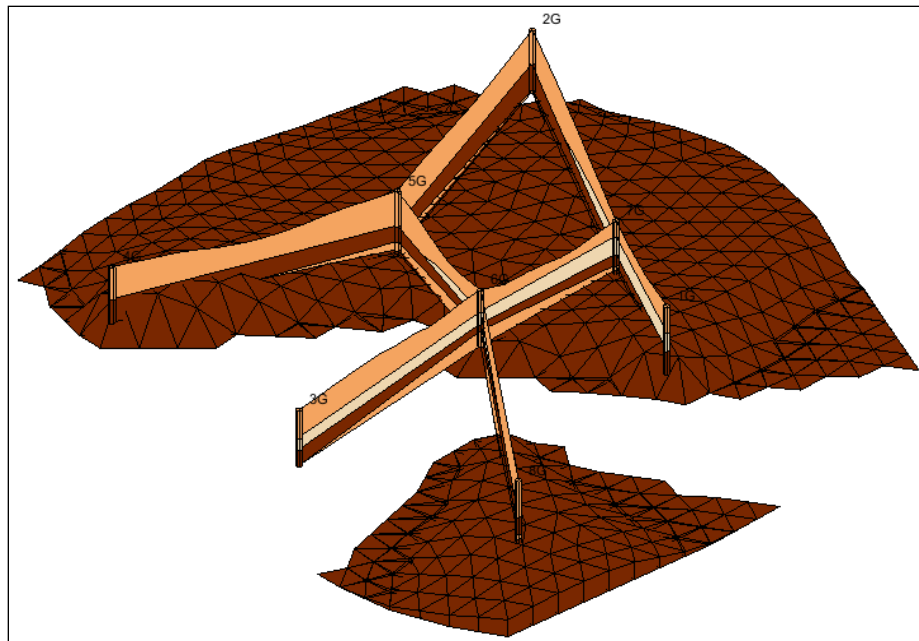

Figure 9 *Silty_Clay 1 solid created with the conceptual model*
2. In the “ solids (3)” folder, turn on the “ Silty_Clay 1” solid. Notice the area that it covers (Figure 9).